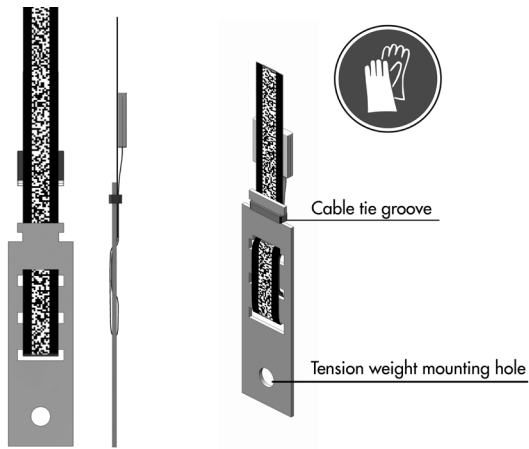

Figure 29: Bottom tension lock
3. Straighten the APS code tape. Fasten it with a cable tie around the tension lock → Figure 29.